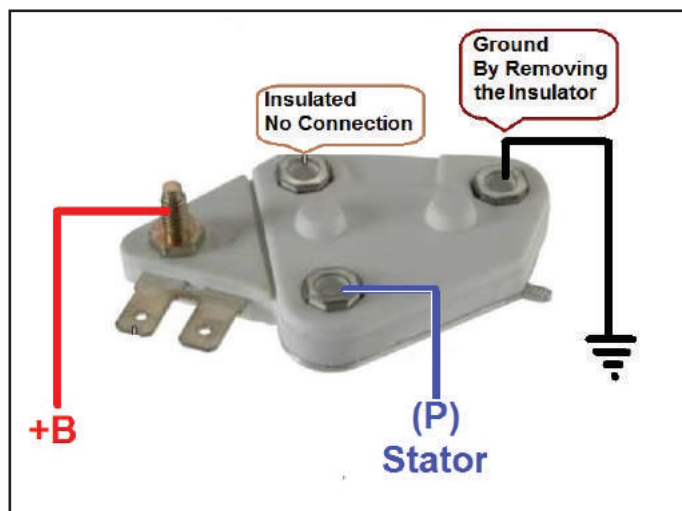

Figure 1 - A 10-SI Self-Exciting B-Circuit Regulator's Connections
AC-activated 10-SI regulator is purely an aftermarket creation, particularly the kind that do not require diode trio and control the field on the high side, meaning operate on "B" circuit. They normally come with a couple of leads and an instruction sheet as how they need to be installed or wired. A simplified example of it can be seen in *Figure 1*. The leads are used to connect the regulator to a stator phase (P), and also a +B source (output post) which functions as the source of field current.